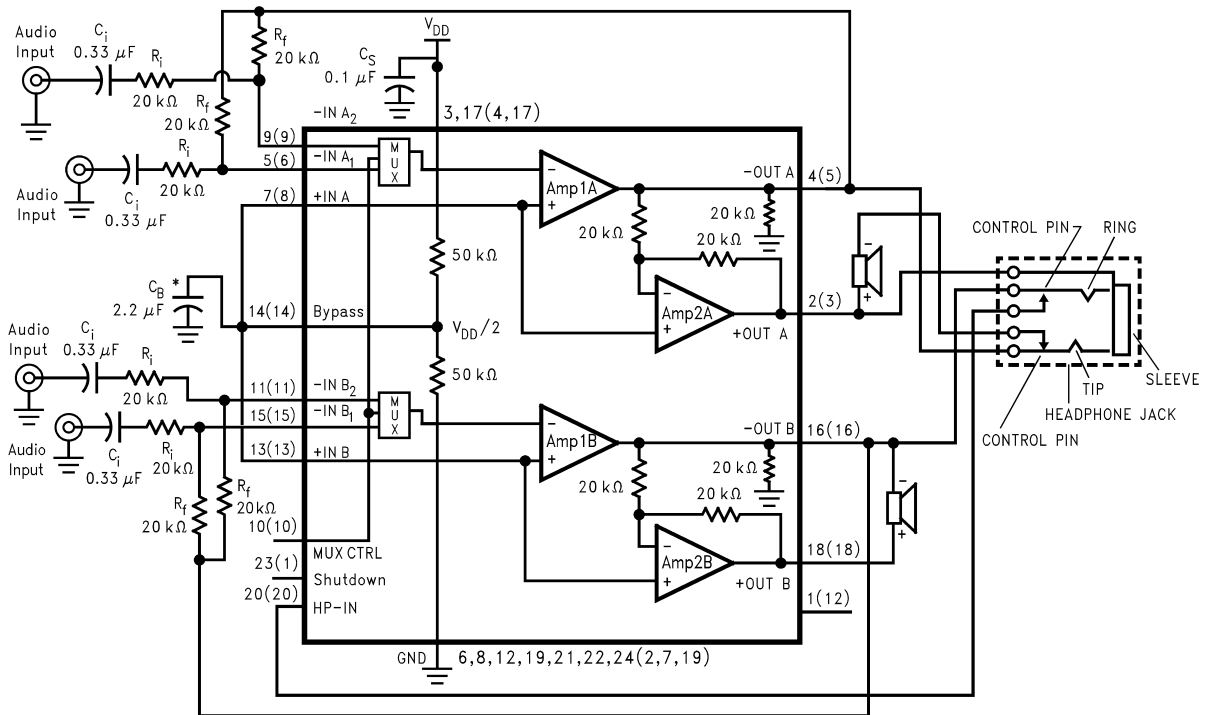

FIGURE 4. Typical Audio Amplifier Application Circuit
The LM4867's noise-free operation plus coupling-capacitorless headphone operation and functional compatibility with the LM4873 and the LM4863 simplifies upgrading systems using these parts. Upgrading older designs that use either the LM4863 or the LM4873 is easy. Simply remove and short the coupling capacitors located between the LM4873's or LM4863's Amp1A and Amp1B outputs and the headphone connections. Also remove the $1k\Omega$ resistor between each headphone connection and ground. Finally, remove any resistors connected to the HP-IN pin (typically two $100k\Omega$ resistors). Connect the HP-IN pin directly to the headphone jack control pin as shown in Figure 4.
The LM4867's unique headphone sense circuit requires a dual switch headphone jack. Replace the four-terminal headphone jack used with the LM4863 and LM4873 with the five-terminal headphone jack, such as the Switchcraft 35RAPC4BH3, shown in Figure 4. Connect the +OUT A (Amp2A) pin to the five-terminal headphone jack's sleeve pin.
As shown in *Figure 4*, the LM4867 consists of two pairs of operational amplifiers, forming a two-channel (channel A and channel B) stereo amplifier. (Though the following discusses channel A, it applies equally to channel B.) External resistors R_f and R_i set the closed-loop gain of Amp1A, whereas two internal 20kΩ resistors set Amp2A's gain at -1. The LM4867 drives a load, such as a speaker, connected between the two amplifier outputs, -OUTA and +OUTA.
Figure 4 shows that Amp1A's output serves as Amp2A's input. This results in both amplifiers producing signals identical in magnitude, but 180° out of phase. Taking advantage of this phase difference, a load is placed between -OUTA and +OUTA and driven differentially ('commonly referred to as bridge mode'). This results in a differential gain of
The dramatic jump in distortion for loads less than 10Ω occurs when current limiting circuitry activates. During SE operation, AMP2A (refer to Figure 4) drives the headphone sleeve. An on-board circuit monitors this amplifier's output current. The sudden increase in THD+N is caused by the current limit circuitry forcing AMP2A into a high-impedance output mode. When this occurs, the output waveform has discontinuities that produce large amounts of distortion. It has been observed that as the output power is steadily increased, the distortion may jump from 5% to greater than 35%. Indeed, 10% THD+N may not actually be achievable.
Amplifying the lowest audio frequencies requires high value input coupling capacitor (C_i in Figure 4). A high value capacitor can be expensive and may compromise space efficiency in portable designs. In many cases, however, the speakers used in portable systems, whether internal or external, have little ability to reproduce signals below 150Hz. Applications using speakers with this limited frequency response reap little improvement by using large input capacitor.
As shown in Figure 4, the input resistor (R_i) and the input capacitor, C_i produce a -3dB high pass filter cutoff frequency that is found using Equation (7).
As an example when using a speaker with a low frequency limit of 150Hz, C_i , using Equation (4) is $0.063\mu\text{F}$. The $1.0\mu\text{F}$ C_i shown in Figure 4 allows the LM4867 to drive high efficiency, full range speaker whose response extends below 30Hz.